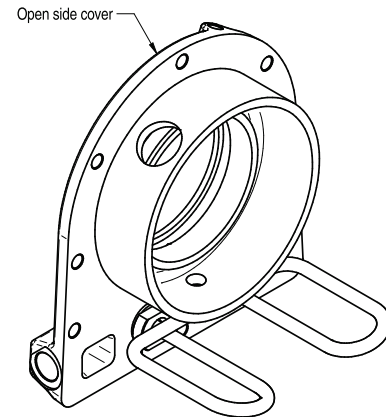

FIG. 2
3. The Cooling pipe is fitted to cover with the help of connectors, see FIG 2.